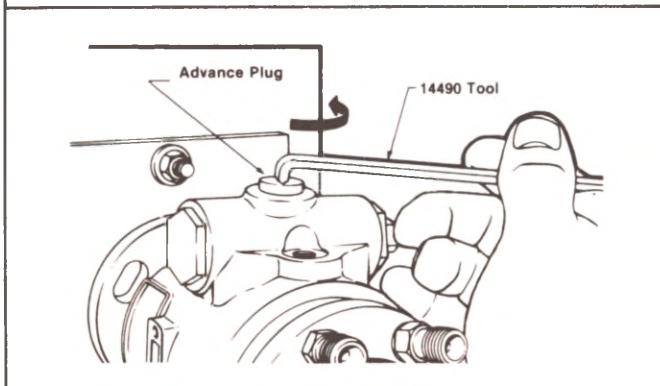

Fig. 3-16 Advance Screw Hole Plug.
14. Remove one (1) head locking screw and loosen the other.
16. Remove advance screw hole plug, using 14490 wrench. Figure 3-16.
10. Install advance screw hole plug using new seal and lubricate. Torque 75-100 in. lbs. or 6-8 ft. lbs. Reverse the action shown in Figure 3-16.